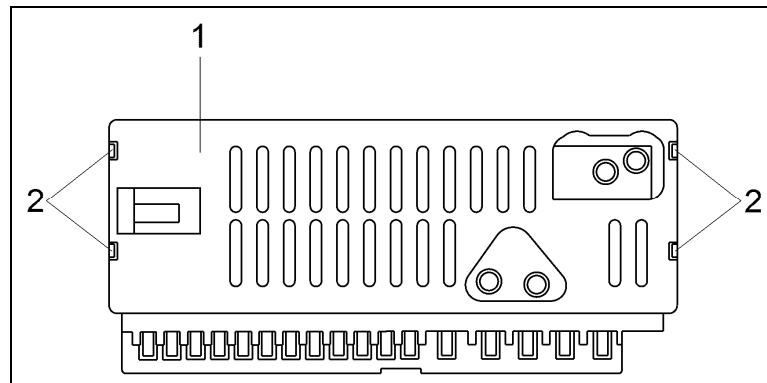

Figure 010-11: Power Electronic Cover
5. Unclip the cover; see Figure 010-11, Items 1 and 2.